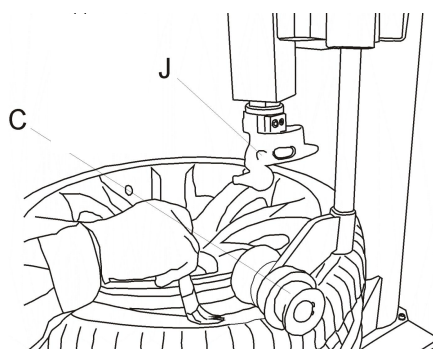

Fig 9
1. Press tyre with right pressing roller C,G to a position 3cm lower than rim edge, lubricate tyre bead, rotate turntable, lift roller C,G. (Fig 9)